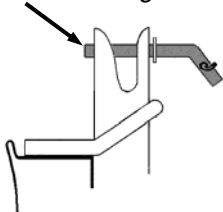

Figure 29
3. Re-insert keyhole pin (**Figure 29**). Repeat same procedure for other side of blade.